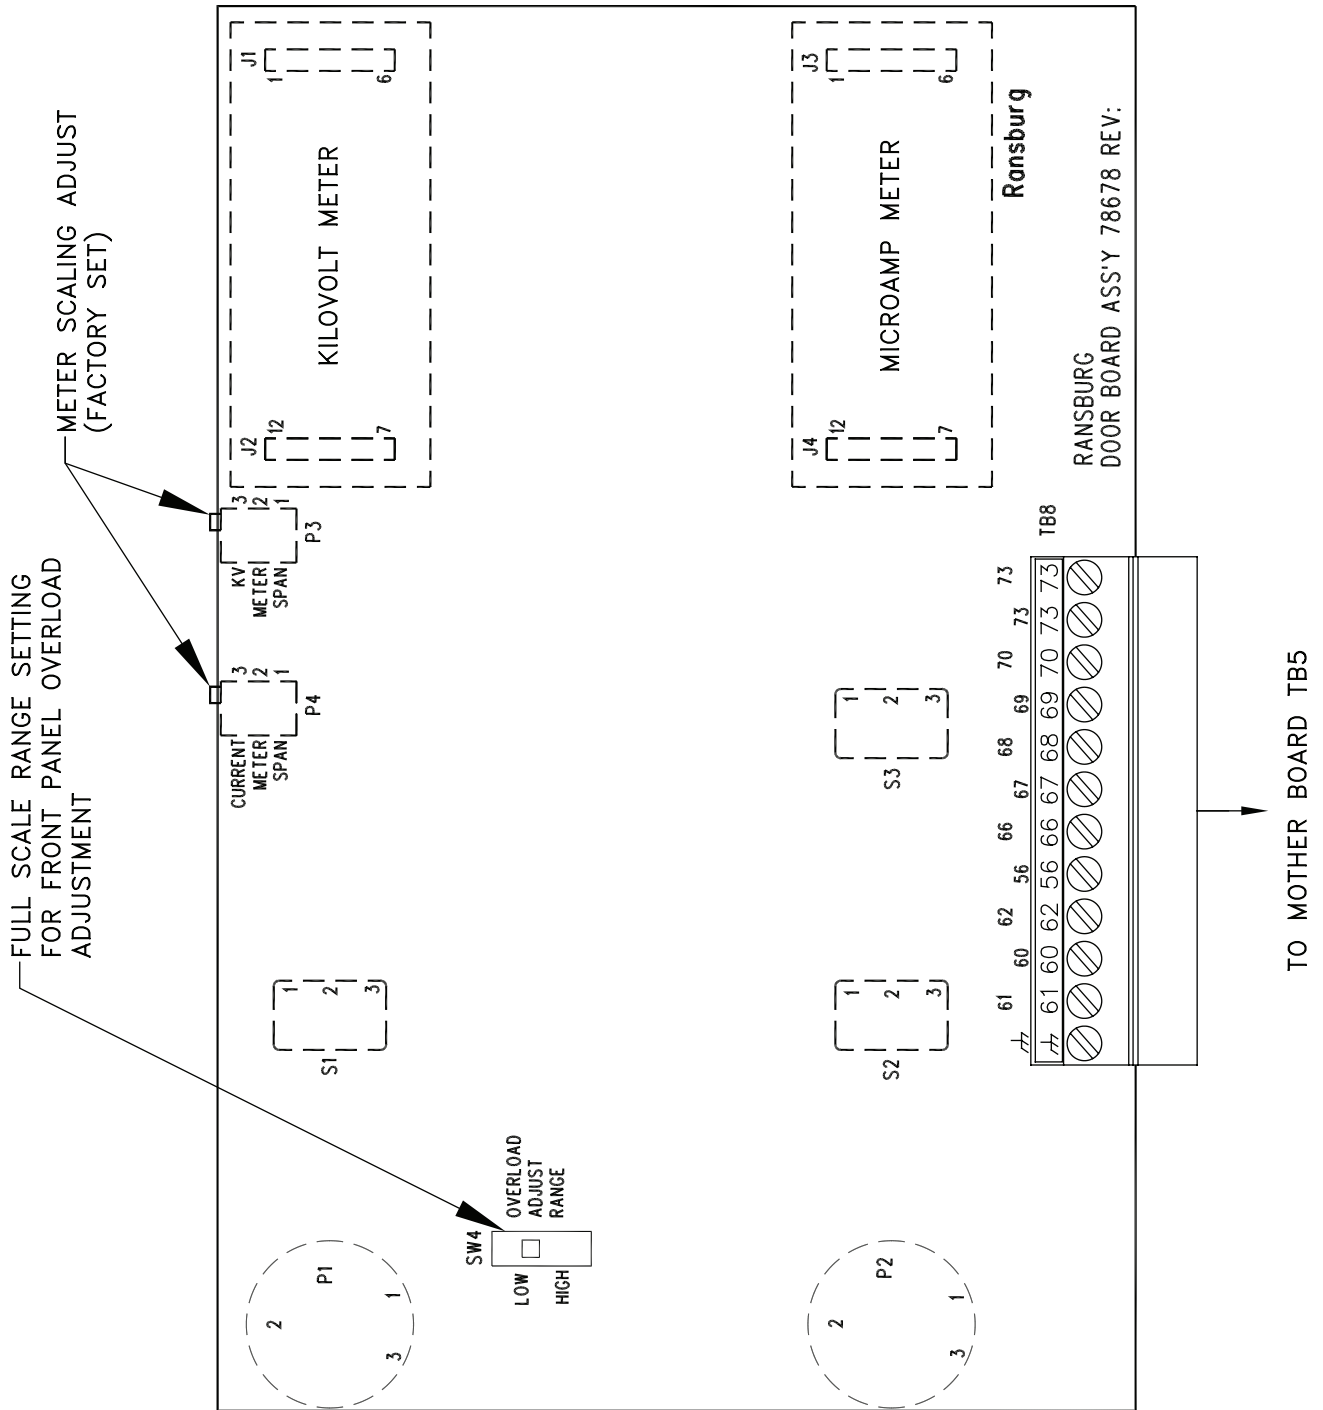

Figure 12: Front Panel Board
(Refer to Figure 12)
Overload Range Select Switch (Refer to Figure 12)
► There are two full-scale overload current ranges available, 0-500 microamps and 0-1,500 microamps. The ranges are selected by a slide switch located on the inside of the control unit door on the printed circuit board (see Figure 12). The switch setting indicated by LOW corresponds to the 0-500 micro-amp range and HIGH corresponds to the 0-1,500 microamp range.